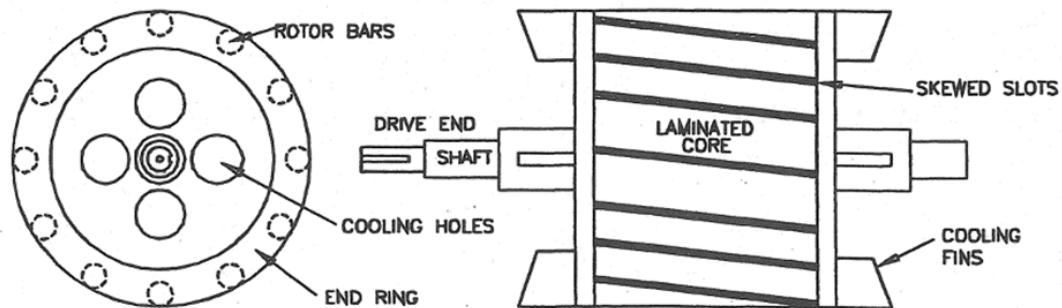

Figure 4 - Basic construction of a squirrel cage rotor
11. A typical squirrel cage rotor consists of comparatively large bars of conducting material (usual aluminium) cast into the slots in the rotor and joined at each end of the rotor with conducting 'end rings'. No insulation is necessary between the rotor bars and the laminated steel rotor core because the rotor winding has a much lower resistance than the rotor core. An outline of the construction of a typical squirrel cage rotor is shown in Figure 4, but you should bear in mind that rotor bars and end rings can have other shapes and they can be made from other materials (such as copper).